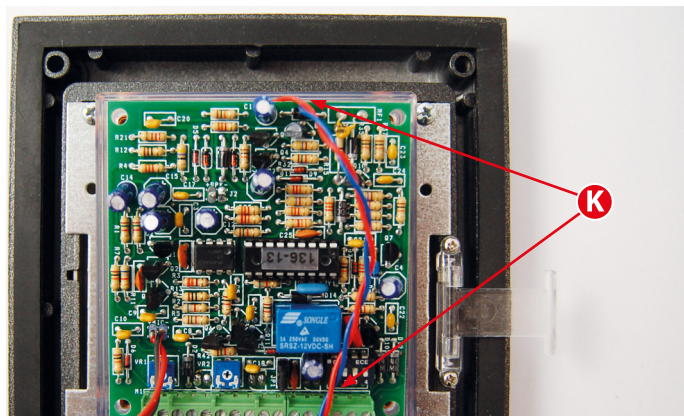

Fig. 26
14. Once the main speaker pcb has been replaced over the **red/blue** wire assembly, fold over the remaining **red/blue** wires over the topside of the pcb and run them down the length of the pcb, as shown in **Fig.26, K**.